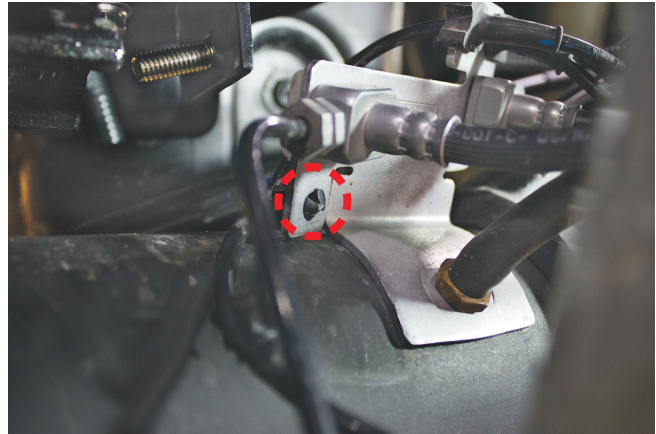

Fig. 18
1. To make room for the lower bracket leg it will be necessary to move the ABS line that is attached to the brake line/ABS bracket mounted on the axle. To do this, first remove the tree mount from the bottom, left side of the bracket (Fig. 18).